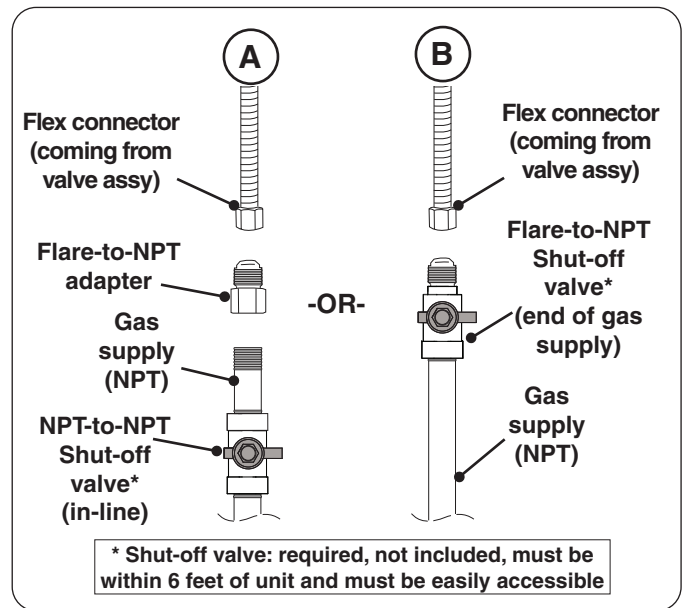

Fig. 32-1 Connecting to a gas line
- Install the supplied flare-to-NPT adapter to the gas supply (NPT) using a pipe joint compound resistant to all gasses (see Fig. 32-1, A). Tighten securely.
- Connect the flex connector to the adapter (see Fig. 32-1, A). Tighten securely.
- Connect the flex connector to the shut-off valve (flare)(see Fig. 32-1, B). Tighten securely.